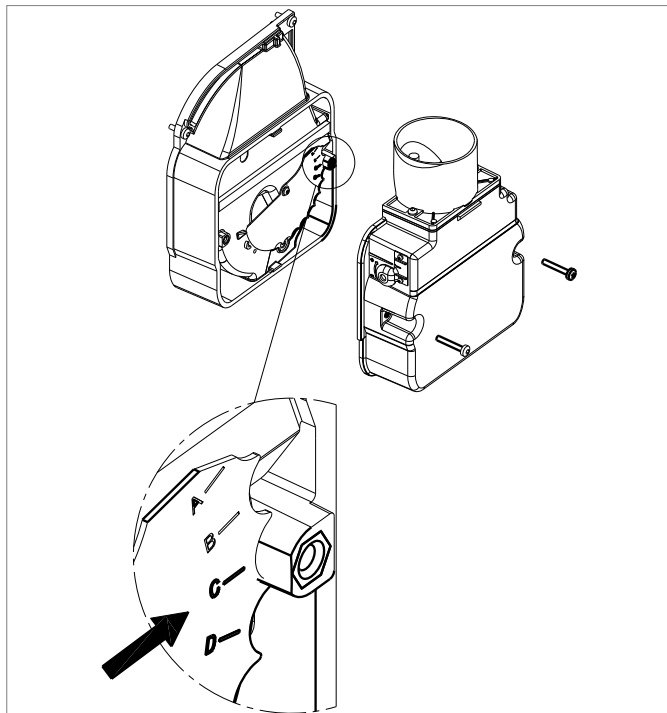

Figure 10-6: Air adjuster disc
It is essential, for correct operation of the burner, that this internal air adjuster disc is correctly set. Refer to Figure 10-6.
4. The air adjuster disc is mounted on the fan housing. Refer to Figure 10-6.